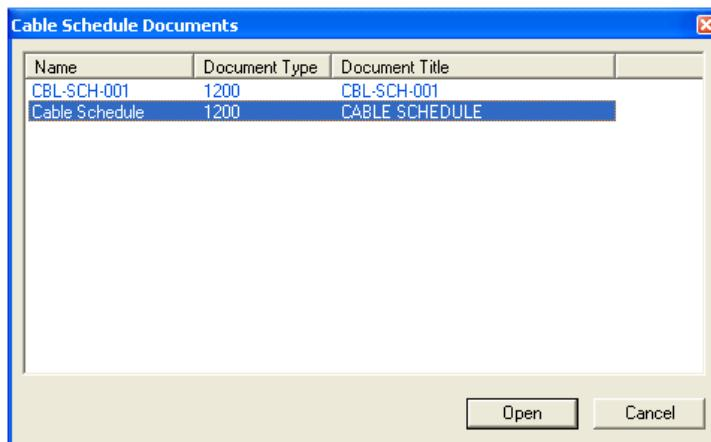

Figure 8: Cable Schedule Documents Dialog Box
2. Select a **Cable Schedule** document and click **Open**, as shown in Figure 8.